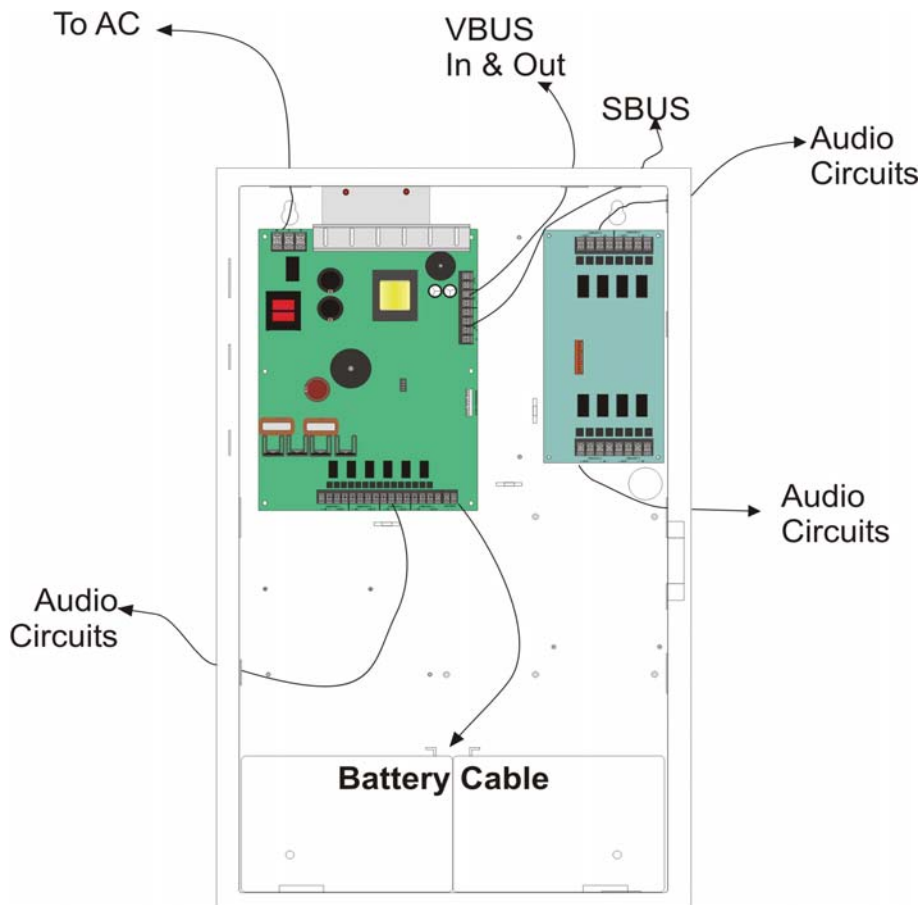

Figure 3-28 Wire Routing Example for VIP-125
- High frequency noise, such as that produced by the inductive reactance of a speaker or bell, can also be reduced by running the wire through ferrite beads or by wrapping it around a ferrite toroid core. Figure 3-28 provides an example.